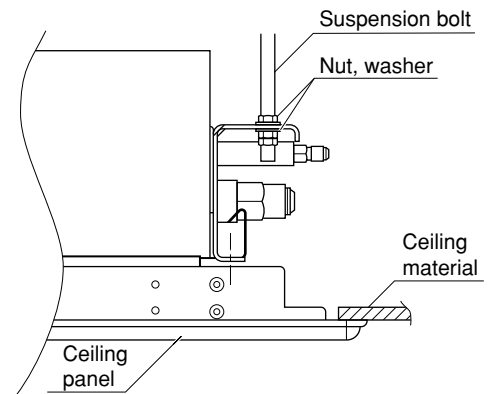

Fig. 9-3
(4) Check to see that the ceiling panel is properly aligned with the seamline of the ceiling. If not, readjust the indoor unit by adjusting the nuts to the proper suspension point. (Fig. 9-3)